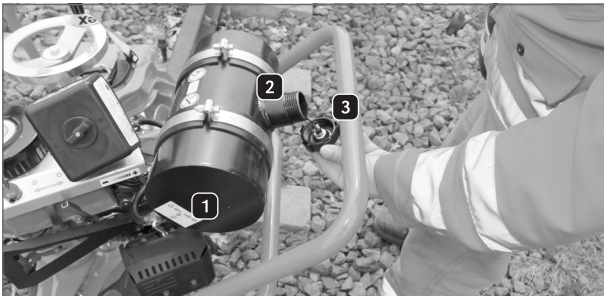

Figure 25: GP 4000 P – fill in fuel
2. Position the machine such that the tank is in a vertical position (see Figure 25 “GP 4000 P – fill in fuel”) and secure the machine against falling over.